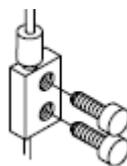

Fig. 4: Attaching the mounting block
2. Attach the mounting block to the AFC-3000 rear panel with the finger-tight mounting block screws provided (→ Fig. 4).